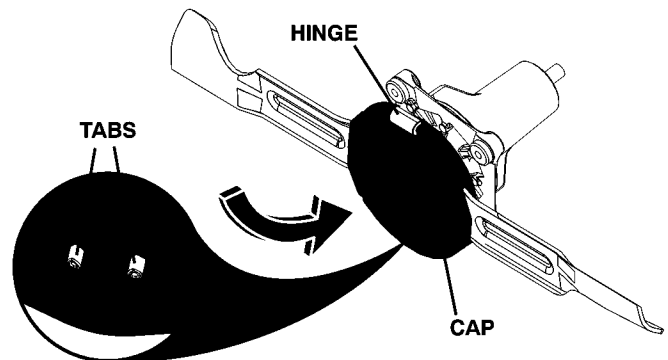

Fig. 33
- Reinstall cap. Hook cap onto hinge and rotate onto tabs. Press cap firmly into place, ensuring both tabs lock into cap. (See Fig. 33.)